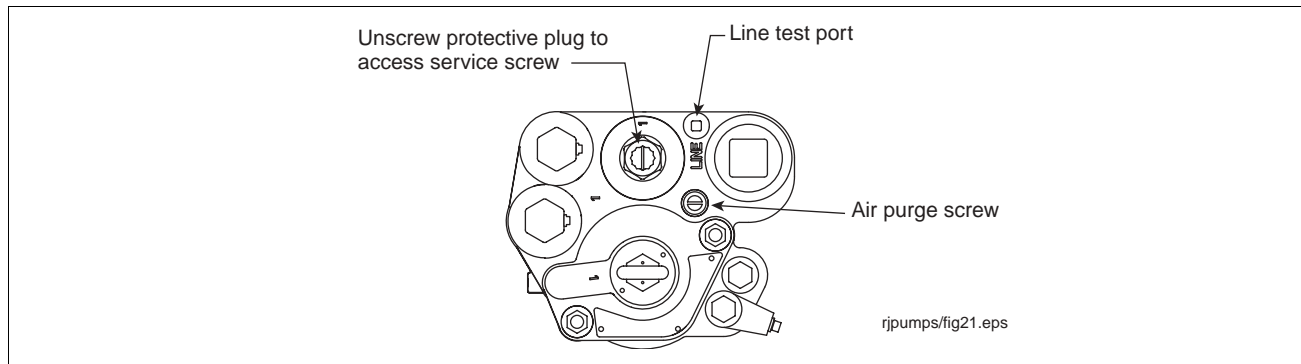

Figure 51. Service screw, line test port, and air purge screw locations
3. Remove line test port plug (see Figure 51). Apply line test pressure at line test port (50 psi [345 kPa] maximum).
6. Turn the air purge screw 2 - 3 turns counterclockwise (see Figure 51).
1. Remove and retain the protective plug over service screw and turn the screw clockwise (see Figure 51). As the screw approaches its bottom position, you will hear the system depressurizing. Continue turning the screw until it can go no further.
5. Turn the air purge screw 2 - 3 turns counterclockwise (see Figure 51).